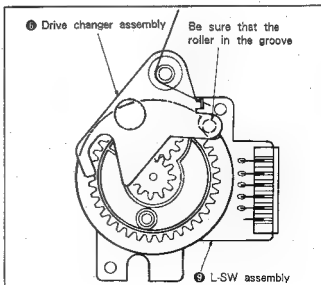

Fig. 7-35.
- 7) Mount the drive changer assembly ⑥. (See Fig. 7-35.)
- 8) Hook the torsion spring ⑤ and fix the stopper washer ④.
- 9) Operate the mode selector and confirm that the L-SW assembly ⑨ rotates.
- 10) Mount lock slider A ③ and tighten with screw ②.
- 11) Mount lock slider retainer ①.
- 12) Operate the mode selector and set to the position in Fig. 7-35.